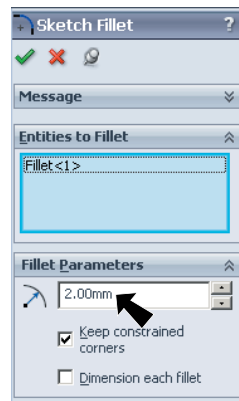

Fig. 9
Step 2. In the Fillet Property Manager set, **Radius**  to 2, **Fig. 9**.